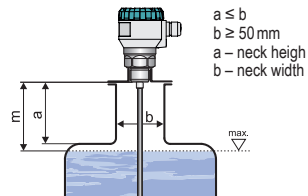

Fig. 5: Installation in the filler neck
- The product must be installed below the filler neck (see Fig. 5). The following applies here: the largest possible nozzle diameter, the smallest possible nozzle height.